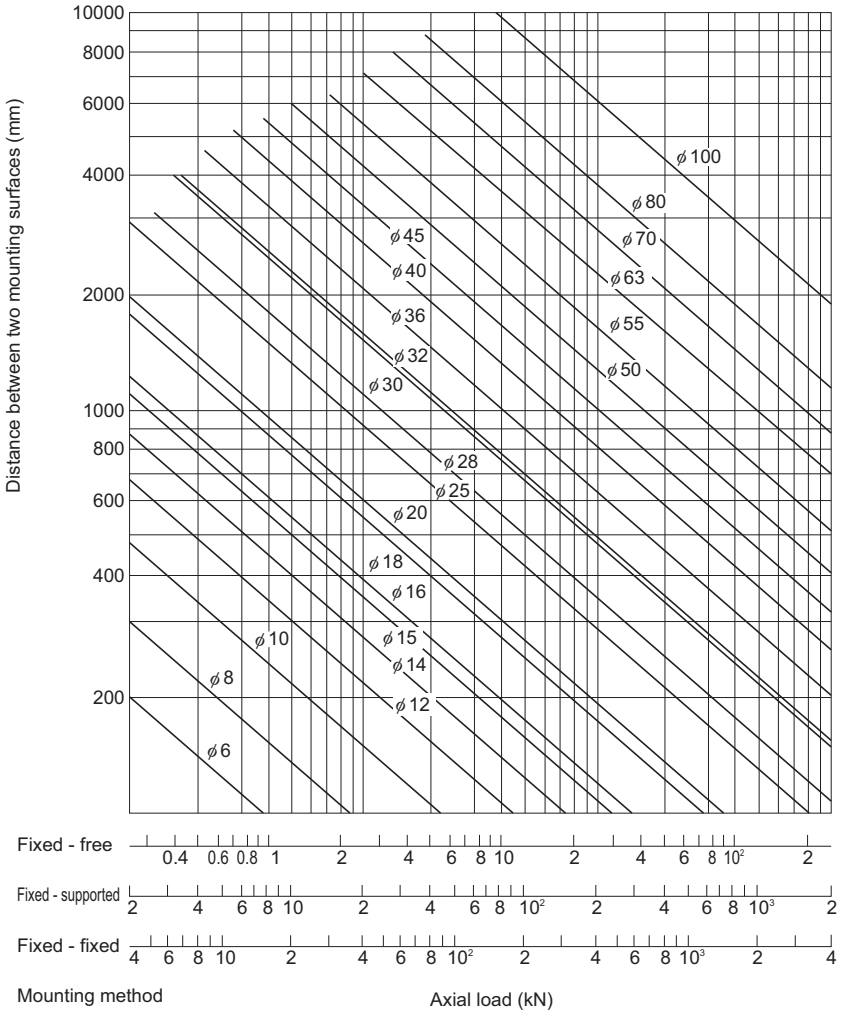

Fig.5 Permissible Tensile Compressive Load Diagram
Fig.5 on **B15-39** shows the relationship between the screw shaft diameter and a buckling load. If determining a buckling load by calculation, it can be obtained from the equation (5) below. Note that in this equation, a safety factor of 0.5 is multiplied to the result.